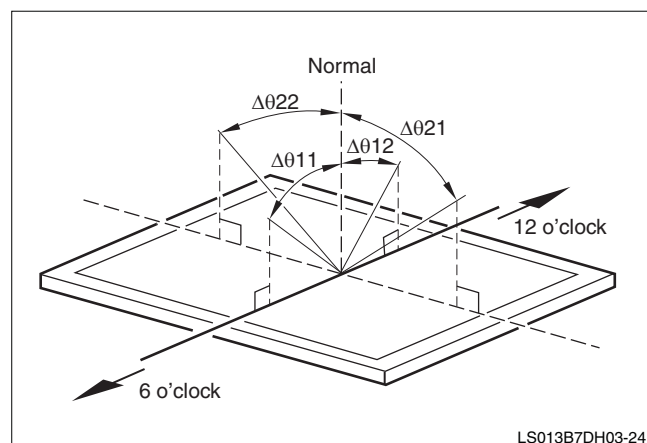

Figure 1. Viewing Angle
1. Viewing Angle is described as clock positions: θ12 = 12 o'clock, θ11 = 6 o'clock, θ21 = 3 o'clock, θ22 = 9 o'clock. See Figure 1.